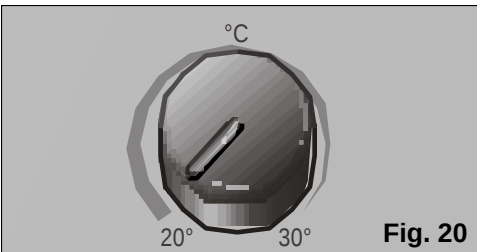

Fig. 20
- ☐ Set the thermostat to its minimum temperature setting, Fig. 20.